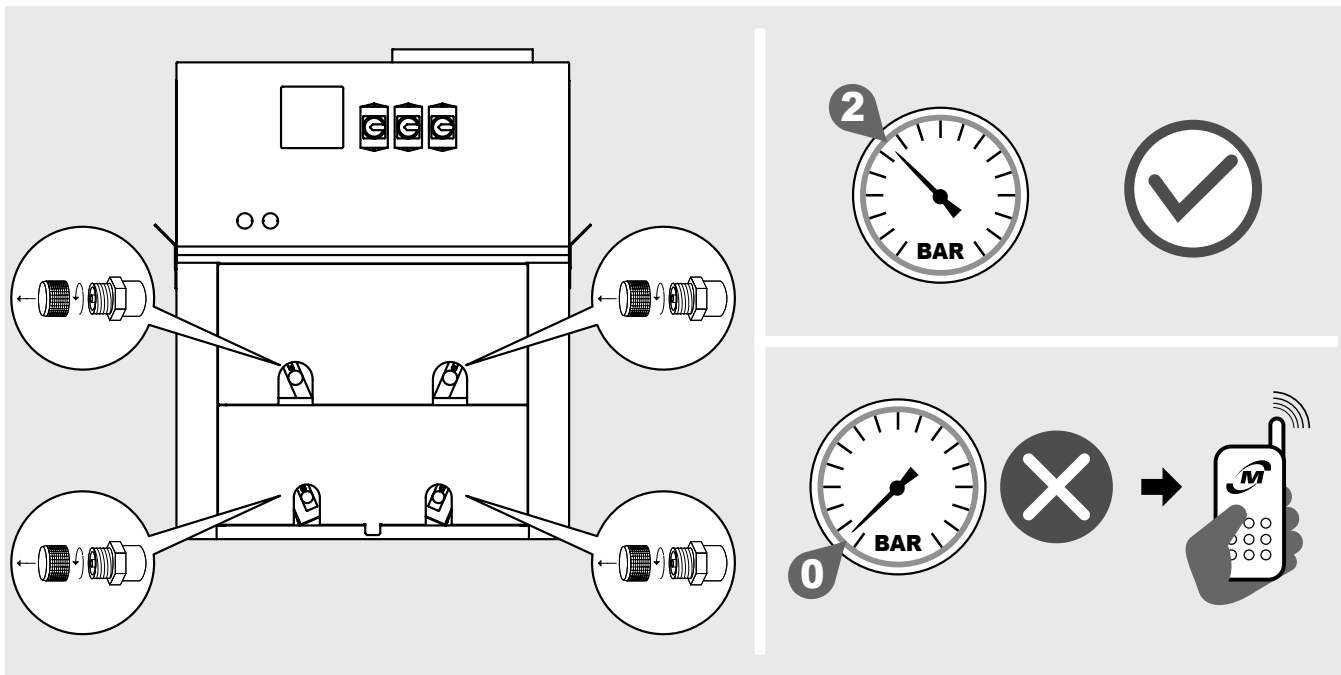

Figure 2
- 4.2 The heat exchangers of the condensers (PRV) and the gas coolers (PRV*.*) are supplied with a pre-charge of dry air at 2 bar and have load couplings of 1/4" SAE. Check for the presence of pressure. In the absence of pressure immediately contact Modine and report the problem on the transport document. Insufficient pressure indicates a loss due to damage incurred during transportation. See "Figure 2": in some models the precise position of the connections can vary at the customer's request.